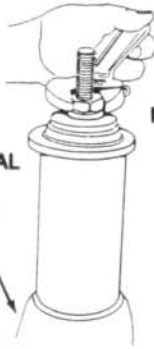

FIG. 25
8. Spin **5/8 NUT** onto **PULLER SHAFT**, and tighten until bearing cup is removed. (Fig. 25)